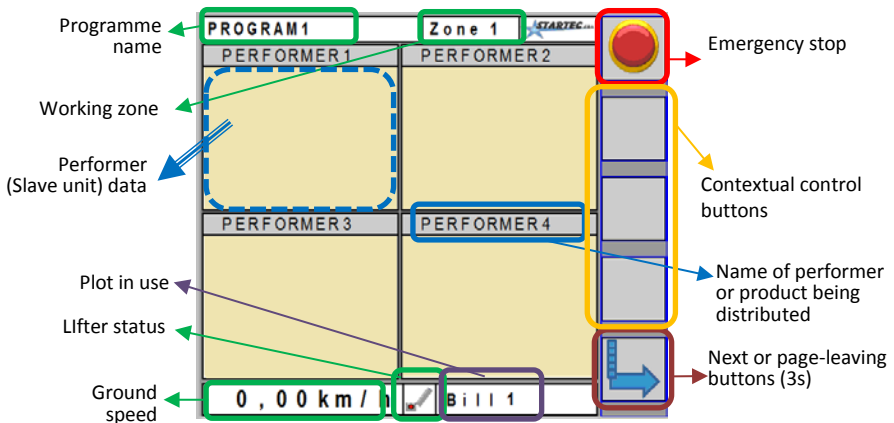

Figure 4: Description of working page fields
- FIGURE 4: DESCRIPTION OF WORKING PAGE FIELDS12
Performer Name: This is the name that is displayed in the performer working area as described in paragraph 3.1, Figure 4. The name has a purely descriptive function and can simply recall the type of product distributed or the number of the slave unit.